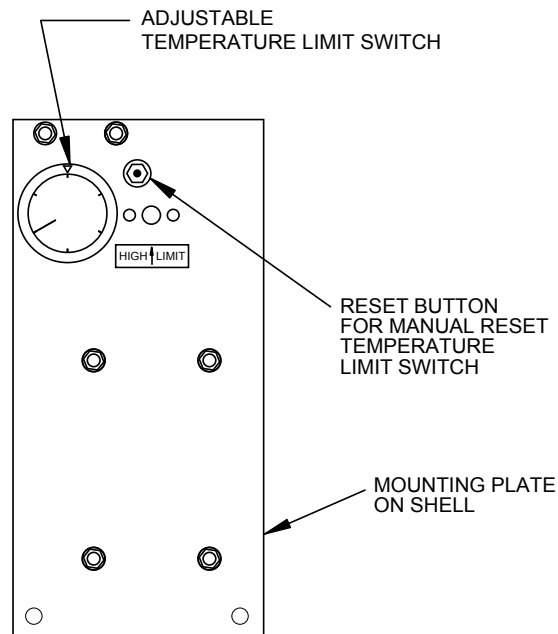

Figure 6.2
2. Lower the adjustable temperature limit switch setting to match the displayed **OUTLET TEMPERATURE**. (See Fig. 6.2).